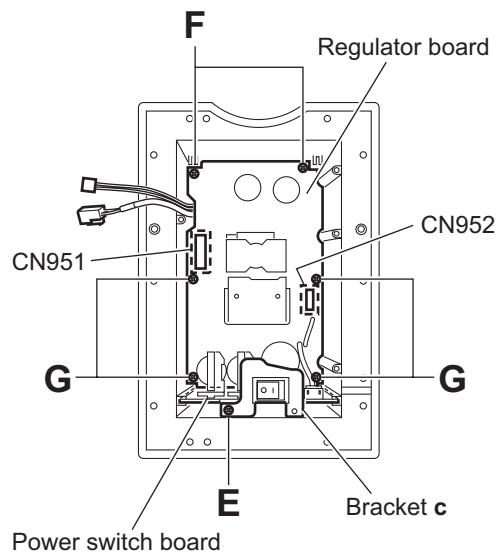

Fig.6
- Remove the amplifier board assembly from the connectors CN951 and CN952 on the regulator board. (See Fig.6.)
3.5 Removing the power supply board assembly (Regulator board, power switch board) (See Fig.6)
- Remove the screw **E** attaching the bracket **c**. (See Fig.6.)